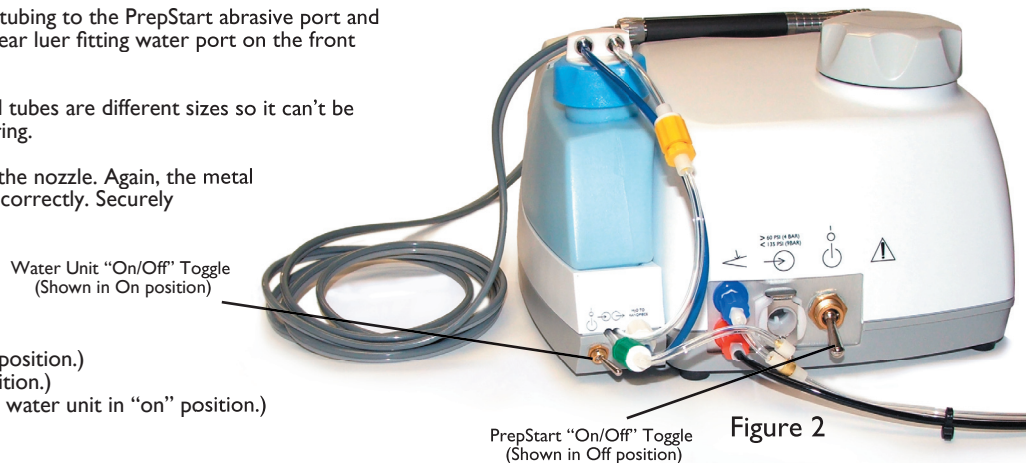

Figure 2
4. Before filling the unit with abrasive, make sure that the rear switch is in the abrasive fill (down) position. (See Figure 2).
- A. Flip the PrepStart switch to "on" position (up). See Figure 2. This will pressurize the jar and the system.